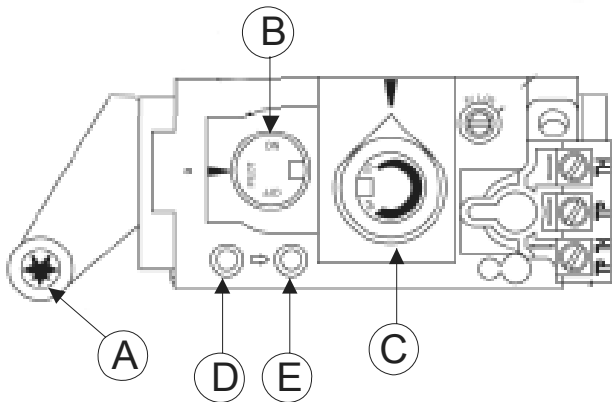
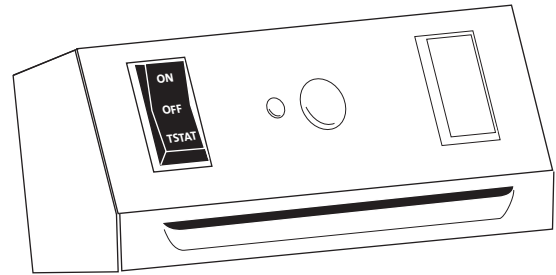
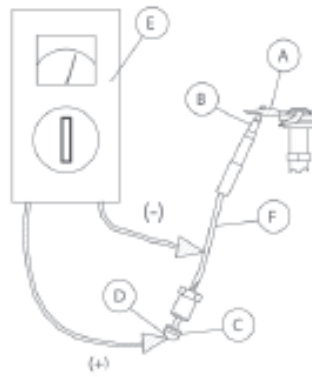
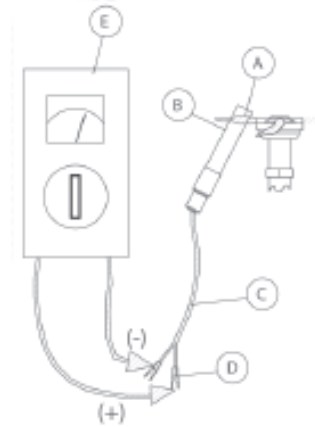

Figure 21. Valve Controls.
Figure 22. Burner Controls.
Figure 24.
Figure 25.
The valve control knobs are located on the front of the appliance behind the control cover plate. See fig. 21. The Burner ON/OFF switch is located on the rear on the left towards the top of the appliance. See fig. 22. This switch has three settings ON/OFF/STAT the STAT position is for use of a remote control thermostat, not available at present, and this setting should not be used.
2. Push in the gas control knob on the front of the valve ("B", fig. 21) a little, and turn clockwise to "OFF". Note: It is impossible to turn the gas control knob unless it is pushed in a little. Do not use force.
3. Push in the gas control knob (B) a little and turn counter-clockwise to "PILOT".
Heat and flame size can be adjusted by turning the regulator knob (C) marked “HI, LOW”, which is located next to the gas control knob (see fig.21). Maximum flame size provides maximum heat. Make sure the appliance has been operating for at least 30 minutes before adjusting the flame.
Push the ON/OFF switch at the rear of the appliance to “OFF”. The pilot flame will continue to burn. In order to fully extinguish the appliance, push in the gas control knob (C) (fig. 21) a little and turn clockwise to “OFF”. Do not use force.
If the pilot does not light after attempts to clear the tube system of air, it indicates a problem with the gas tank/cylinder or a leak in the gas tube. Check the gas pressure as instructed in the section Gas Installation on page 10 and determine if the fault/leak is before or after the valve on the appliance. If the gas pressure at outlet D (fig. 21) is too low or there is no gas pressure at all, the fault or leak must be located before the valve on the appliance. If the gas pressure is OK at outlet (D), but too low at outlet (E), then the fault or leak must be located after the valve.
## Thermocouple (Fig.24) and Thermopile (Fig. 25)
This is the trouble-shooting procedure for the thermocouple, fig. 24,B: Check the copper wire (F) of the thermocouple for cracks or damage.
Make sure the flame is centred at the thermocouple. Make sure the thermocouple is enveloped by the flame up to at least 3 mm from the tip (see fig.21). Check the voltage generated by the thermocouple. Connect the multimeter (fig.24-E) with plus to the ball point (D) at the end of the copper wire. Connect minus to the copper wire. Light the pilot (A) and hold in the control knob to prevent the flame on the pilot burner from going out. At this point the multimeter should show 14-28 mV. the thermocouple. Note that there are 2 threaded holes that can be used when installing a new thermocouple. Make sure the blue wire (A) is fastened at the same threaded hole. The nut on the thermocouple must not be tightened too much, just a 1/2 turn. If the gas pressure is correct and the possible faults above have been checked, the pilot flame can be adjusted with the adjusting screw. The gas volume is increased when the screw is turned anti-clockwise.
This is the trouble-shooting procedure for the thermopile (fig. 25):
8. Check the voltage generated by the thermopile (see fig 25). Connect the multimeter with plus to one cable clip (D). Connect minus to the other cable clip. Light the pilot and make sure the control knob remains on "PILOT" (fig. 21-B). At this point the multimeter should show 500-700mV.